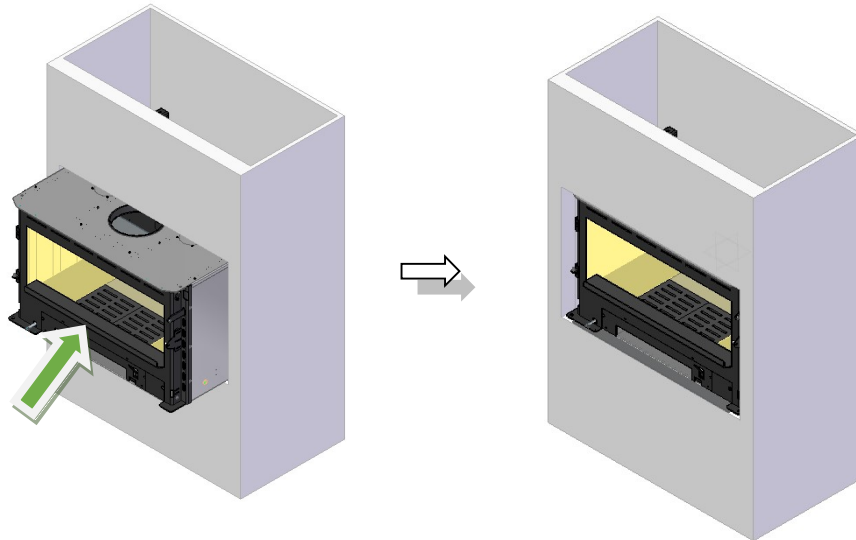

**Figure 10 - Disengaging the door from the supports**
9. You should note that when you put the equipment in place you should remove the door by lifting it upwards in order to remove the door from the supports, Figure 10. If your equipment is a door made of sheet metal, it is advisable to also remove the lower panel by loosening the side screws as shown in Figure 11. If it is a glass door unit there is no lower panel.